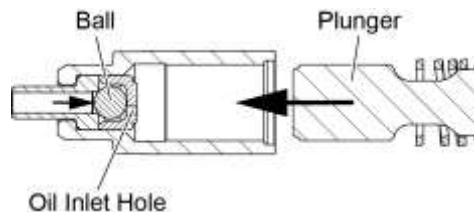

Figure 64
- (1) Clean and lightly coat the lifter parts with engine oil before assembly.
- (2) To assemble the unit, unseat the ball (Figure 64) by inserting a thin clean bronze wire through the oil inlet hole.
- (3) With the ball off its seat, insert the plunger and turn it clockwise until the spring engages.